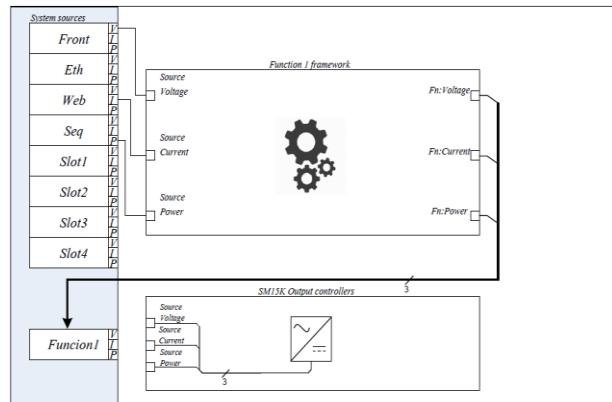

Figure 6.7: Functions Blocks can be put in between a program source and the units output controllers
- Integrated Function Blocks are functional integrated software blocks with predefined behavior that can be put in between a program source and the units output controllers, see Figure 6.7.